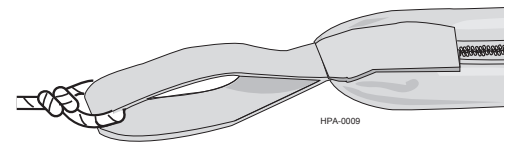

Figure 10
Step 3: Attach a pull line to the pulling loop at the end of the sleeve (Figure 10).